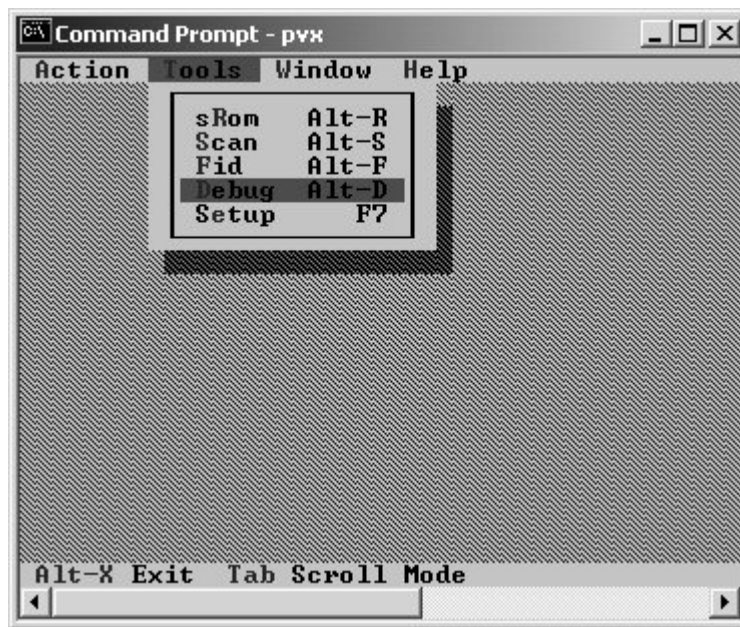

FIGURE 46. Running Debugger Tools
1. Select **Tools -> Debug** from the menu bar as shown in Figure 46.